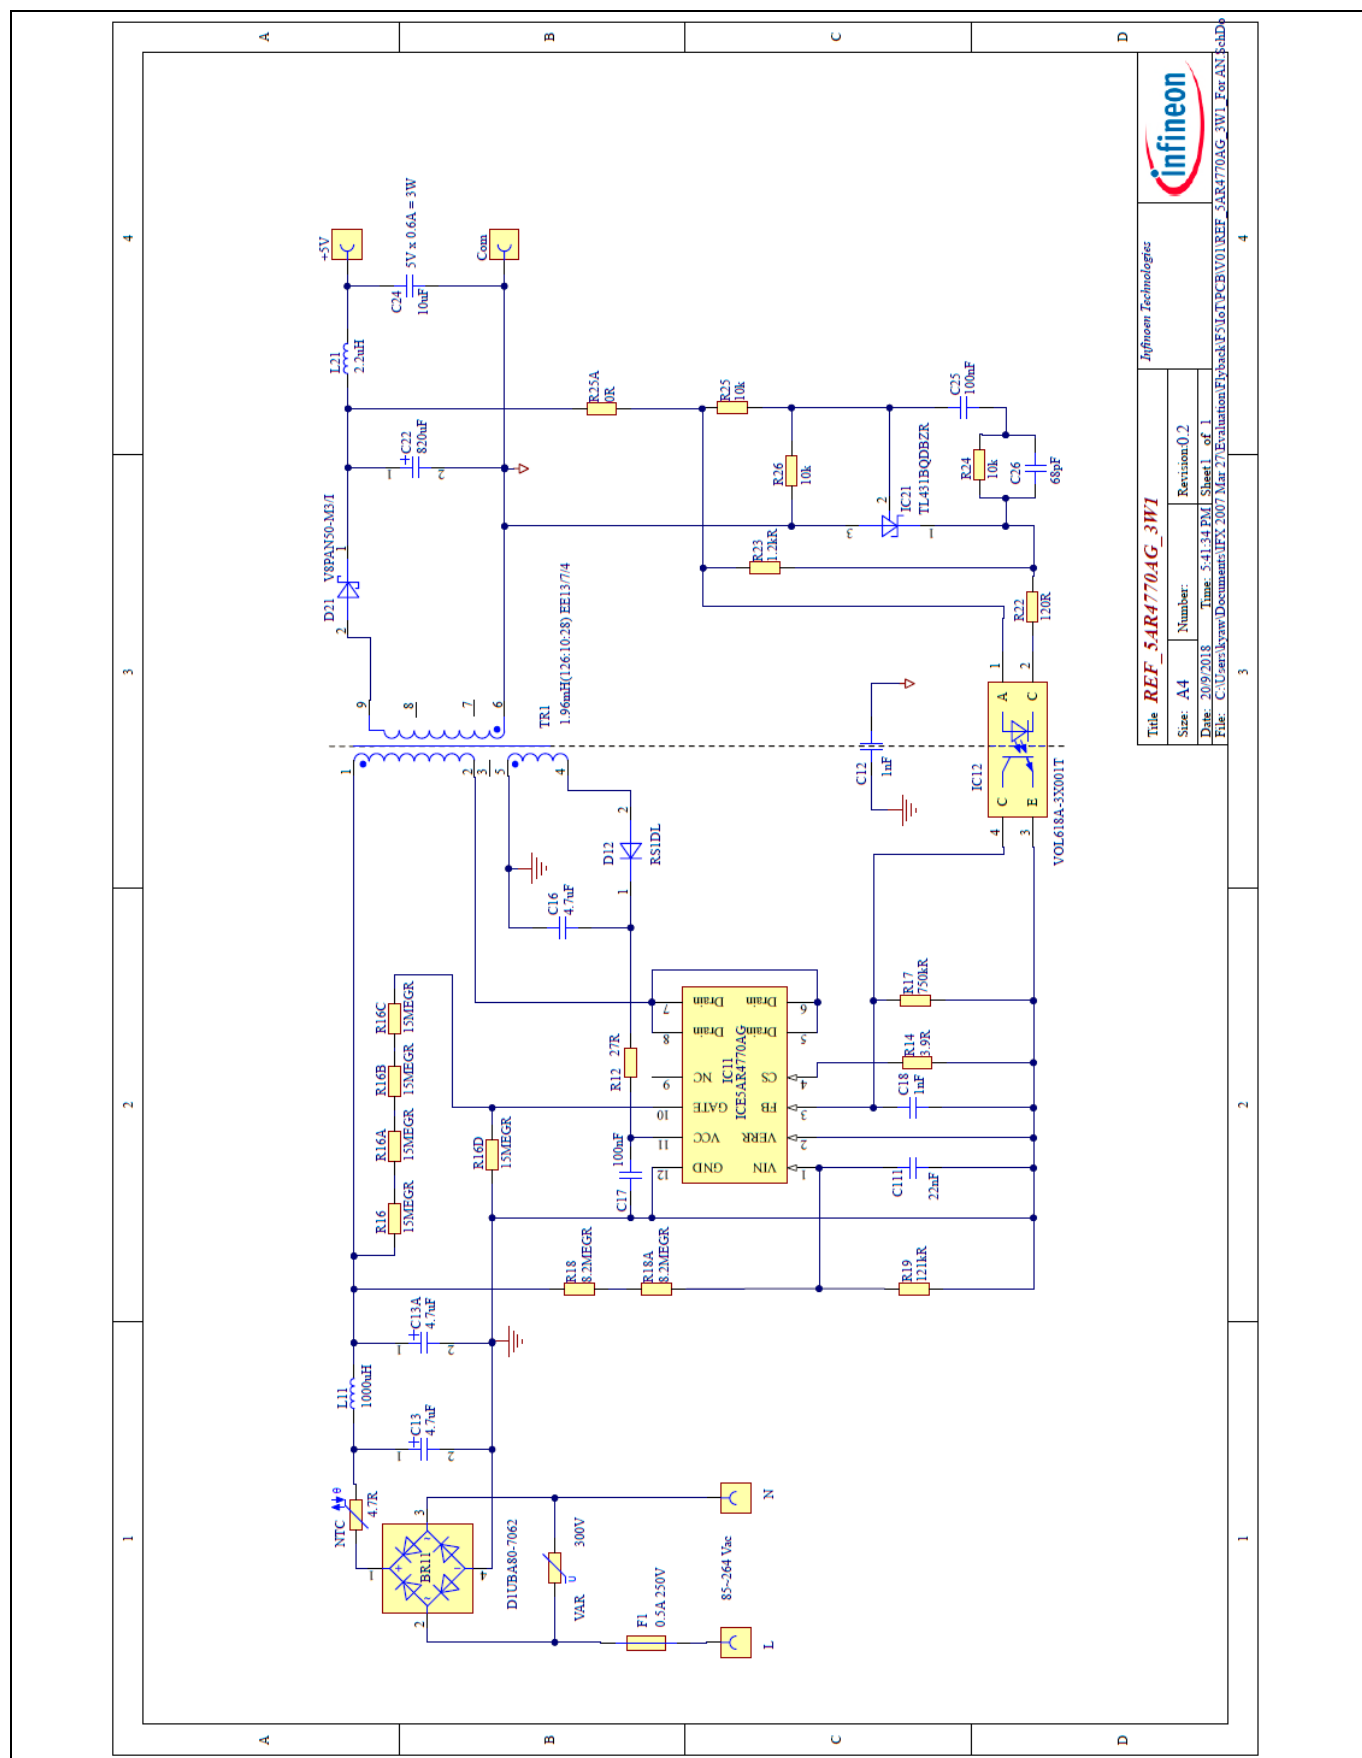

Figure 3 **Schematic of REF_5AR4770AG_3W1**
Comprehensive protection features are integrated into the FF CoolSET™ ICE5AR4770AG, such as input line OVP, V_{CC} OV, V_{CC} Under Voltage (UV), over-load/open-loop, over-temperature and Current Sense (CS) short-to-GND. It also has limited charging current for V_{CC} short-to-GND and brown-in protection by utilizing $R_{Brown-in}$ (R16D in Figure 3).